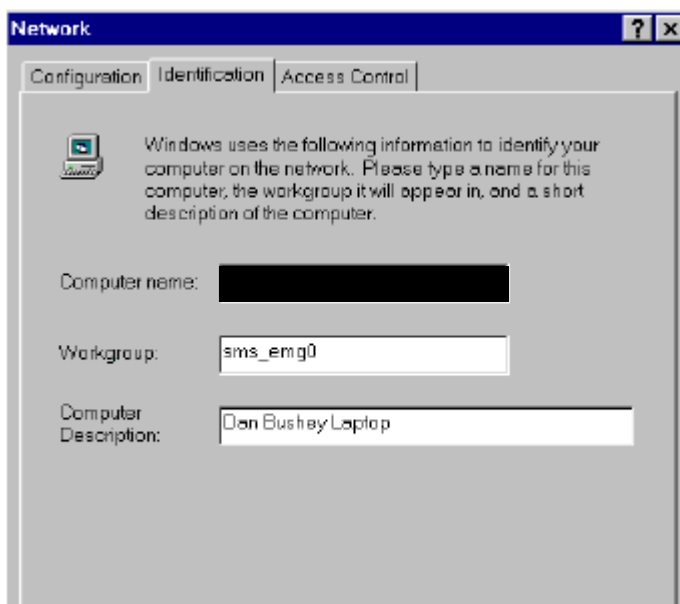

Figure 15-5 Network Window
7. Type Subnet Mask **255.255.255.0**, and then click on *OK* button to open Network window (see Figure 15-5).